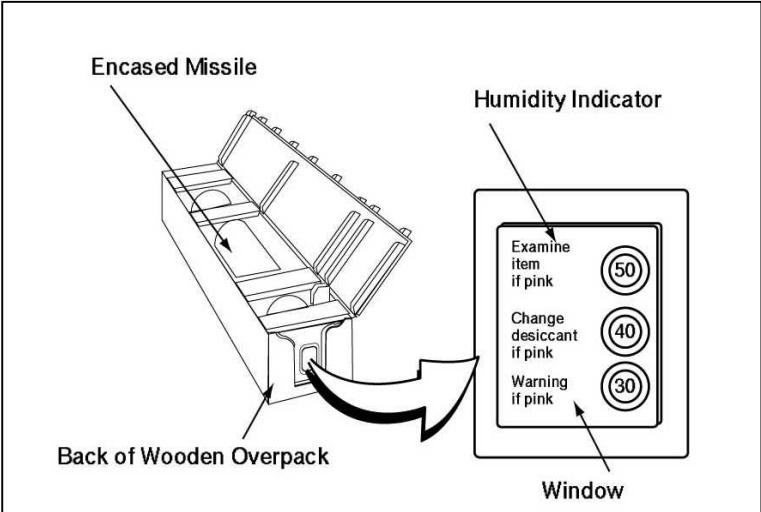

Figure 5-2-3: Step 2—Inspection Upon Receipt of TOW Missile Wooden Overpack Shipping Container
- (1) Inspect the outside of the wooden overpack to make sure that it is not damaged in any way.
- (2) The encased missile in the wooden overpack may be in a plastic bag. If it is in a bag, a humidity indicator is located in the bag and can be seen through the window in the back end of the wooden overpack. If the humidity indicator is blue, Step 1 is finished. If the humidity indicator is pink, remove the plastic bag and throw it away and take the encased missile back to the appropriate ammunition supply area (ASA) as soon as possible.
- (3) If the encased missile is not in a plastic bag, the humidity indicator on the back end of the encased missile will be visible through the window in the rear of the wooden overpack. If the humidity indicator is blue, this inspection is finished, go to Step 2. If the humidity indicator is pink, take the encased missile back to the appropriate ammunition supply area (ASA) as soon as possible (see Figure 5-2-3).